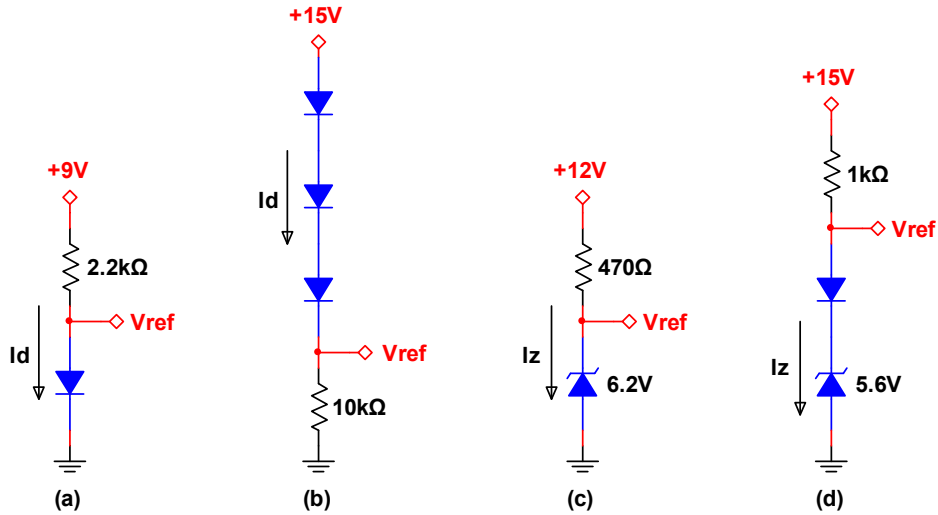

Fig. 1: Circuits to analyze for Problem 1.
1) Perform a “quick” analysis (e.g. assume 0.7V for a diode) to compute V_{REF} and current for each circuit in Fig. 1.